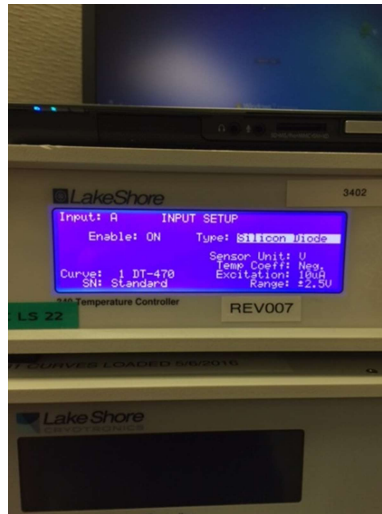

Figure 4
- 1.3 Using the enter key, select sensor type (Figure 4).